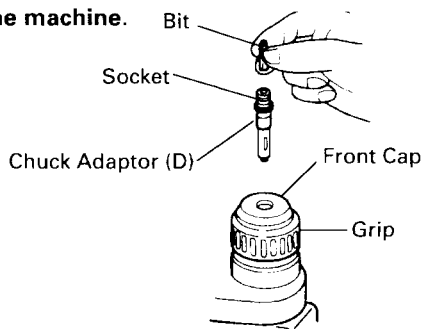

Fig. 10
4. When driving machine screws (Fig. 10)
- Do not attempt to use the rotary hammer in the rotation and striking function with chuck adaptor (D) and bit attached.
5. When driving wood screws (Fig. 10)